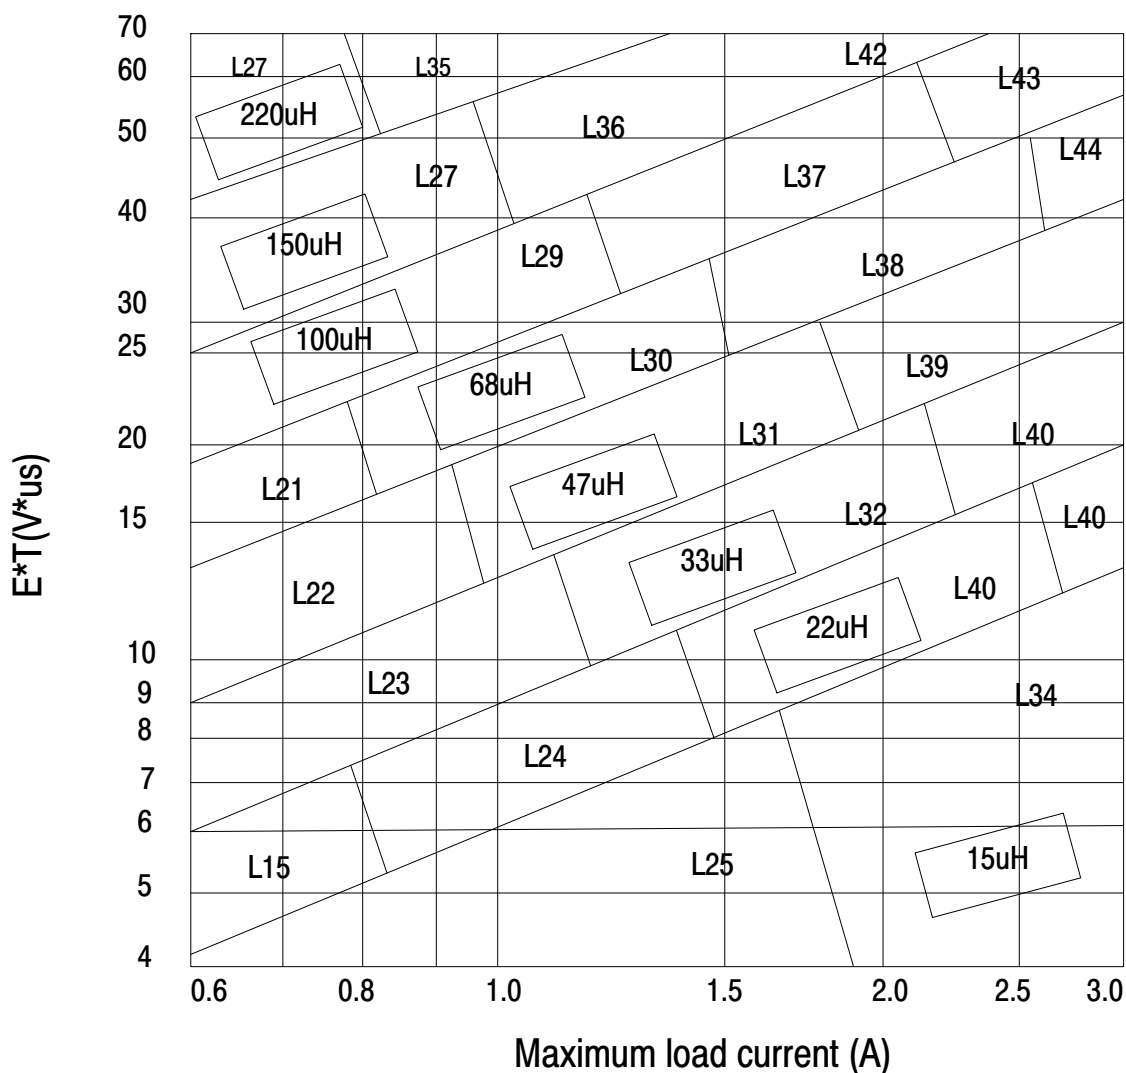

Figure 18. Inductor Value Selection Guides (For Continuous Mode Operation)
4. Inductor Selection (L₁) A. Use the following formula to calculate the inductor Volt x microsecond [V x μs] constant: $E \times T = (V_{IN} - V_{OUT} - V_{SAT}) \times \frac{V_{OUT} + V_D}{V_{IN} - V_{SAT} + V_D} \times \frac{1000}{150 \text{ kHz}} (V \times \mu s)$ B. Match the calculated E x T value with the corresponding number on the vertical axis of the Inductor Value Selection Guide shown in Figure 18. This E x T constant is a measure of the energy handling capability of an inductor and is dependent upon the type of core, the core area, the number of turns, and the duty cycle. C. Next step is to identify the inductance region intersected by the E x T value and the maximum load current value on the horizontal axis shown in Figure 18. D. Select an appropriate inductor from Table 3. The inductor chosen must be rated for a switching frequency of 150 kHz and for a current rating of $1.15 \times I_{Load}$. The inductor current rating can also be determined by calculating the inductor peak current: $I_{p(max)} = I_{Load(max)} + \frac{(V_{in} - V_{out}) t_{on}}{2L}$ where t_{on} is the "on" time of the power switch and $t_{on} = \frac{V_{out}}{V_{in}} \times \frac{1.0}{f_{osc}}$	4. Inductor Selection (L₁) A. Calculate E x T [V x μs] constant: $E \times T = (12 - 5 - 1.5) \times \frac{5 + 0.5}{12 - 5 + 0.5} \times \frac{1000}{150 \text{ kHz}} (V \times \mu s)$ $E \times T = (5.5) \times \frac{5.5}{7.5} \times 6.6 (V \times \mu s)$ B. E x T = 27 [V x μs] C. $I_{Load(max)} = 3.0 \text{ A}$ Inductance Region = L40 D. Proper inductor value = 33 μH Choose the inductor from Table 3.
To simplify the inductor selection process, an inductor selection guide for the LM2596 regulator was added to this data sheet (Figure 18). This guide assumes that the regulator is operating in the continuous mode, and selects an inductor that will allow a peak-to-peak inductor ripple current to be a certain percentage of the maximum design load current. This percentage is allowed to change as different design load currents are selected. For light loads (less than approximately 300 mA) it may be desirable to operate the regulator in the discontinuous mode, because the inductor value and size can be kept relatively low. Consequently, the percentage of inductor peak-to-peak current increases. This discontinuous mode of operation is perfectly acceptable for this type of switching converter. Any buck regulator will be forced to enter discontinuous mode if the load current is light enough.